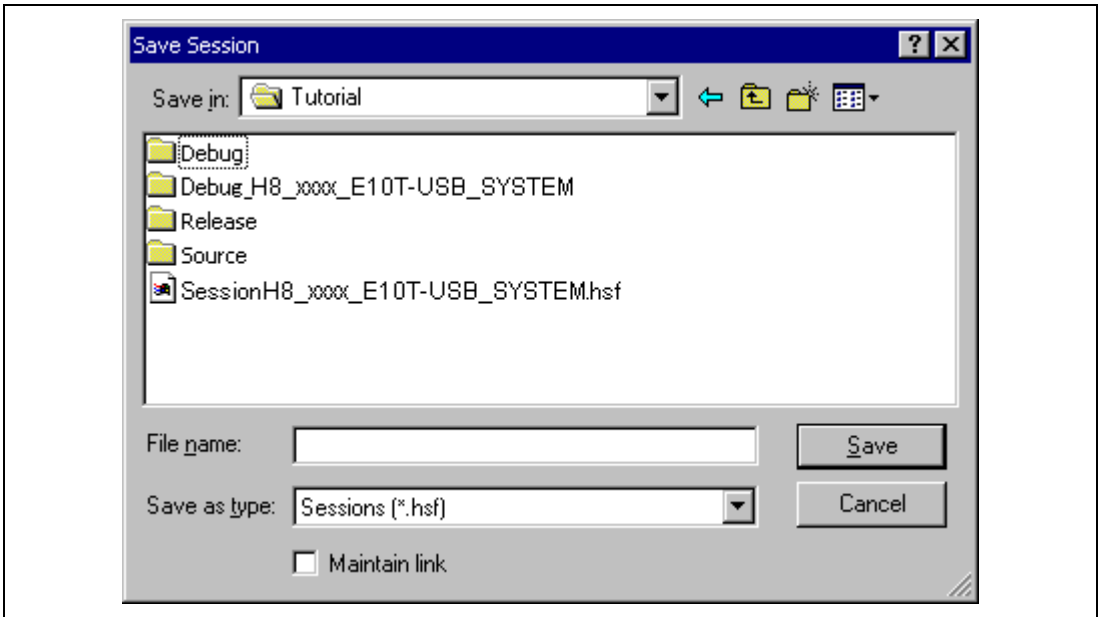

Figure 4.31 [Save Session] Dialog Box
3. Click the [Save as...] button to display the [Save Session] dialog box (figure 4.31).